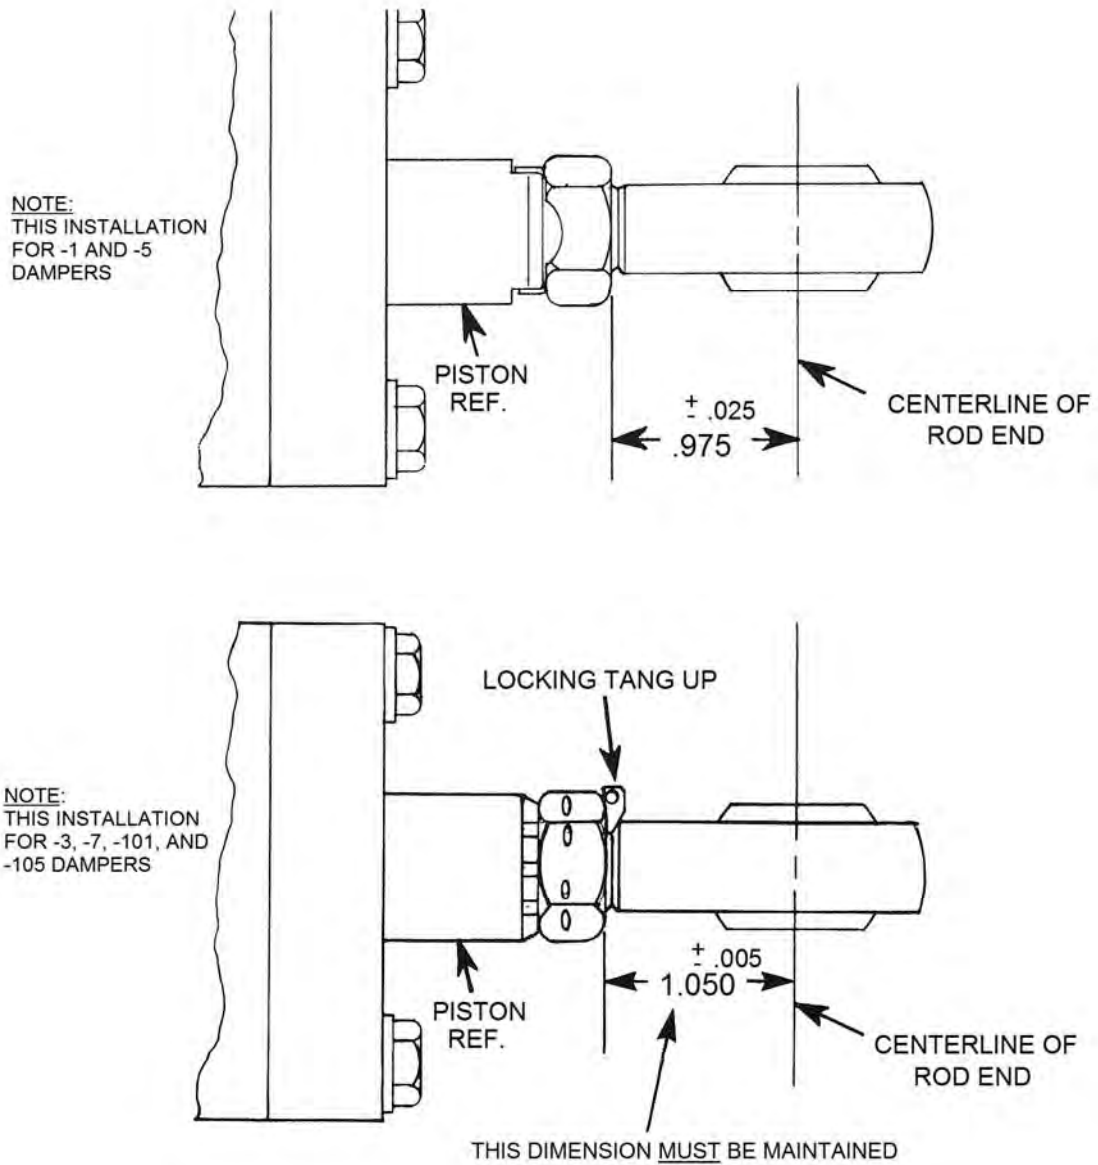

Figure 9-12. Damper Rod End Installation
- (e) Install jam nut (19) and locking key (18) or flat lock washer (29), as applicable.
- (g) Install the damper rod end bearing assembly (20) into the damper piston (6) or (30) until the correct rod end dimension is obtained (Figure 9-12):
- (i) (-1 and -5 dampers) Dimension equals $0.975 \text{ in} \pm .025 \text{ in} / 26.7 \text{ mm} \pm .13 \text{ mm}$ from centerline of rod end to outboard edge of jam nut (19).
- (ii) (-3, -7, -101, and -105 dampers) Dimension equals $1.050 \text{ in} \pm .005 \text{ in} / 26.7 \text{ mm} \pm .13 \text{ mm}$ from centerline of rod end to outboard edge of jam nut (19).